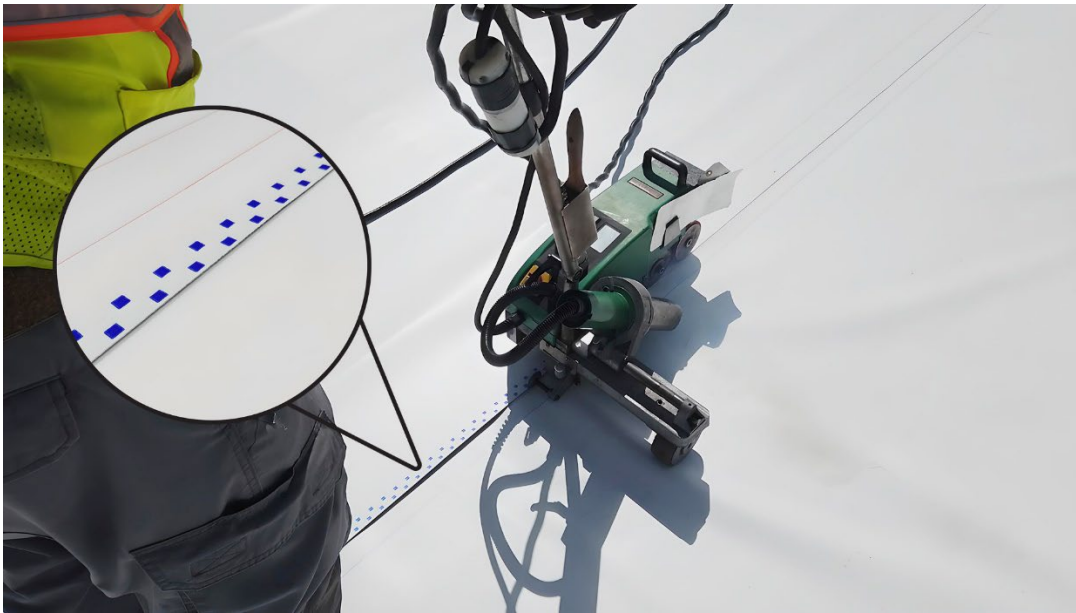

Figure 1: Pro-Weld in Use
- Pro-Weld is applied during production in two ¼" wide dashed lines running parallel to the left edge of the membrane approximately ¼" and ¾" from the edge (see Figure 1). This helps to establish the depth of a quality weld.